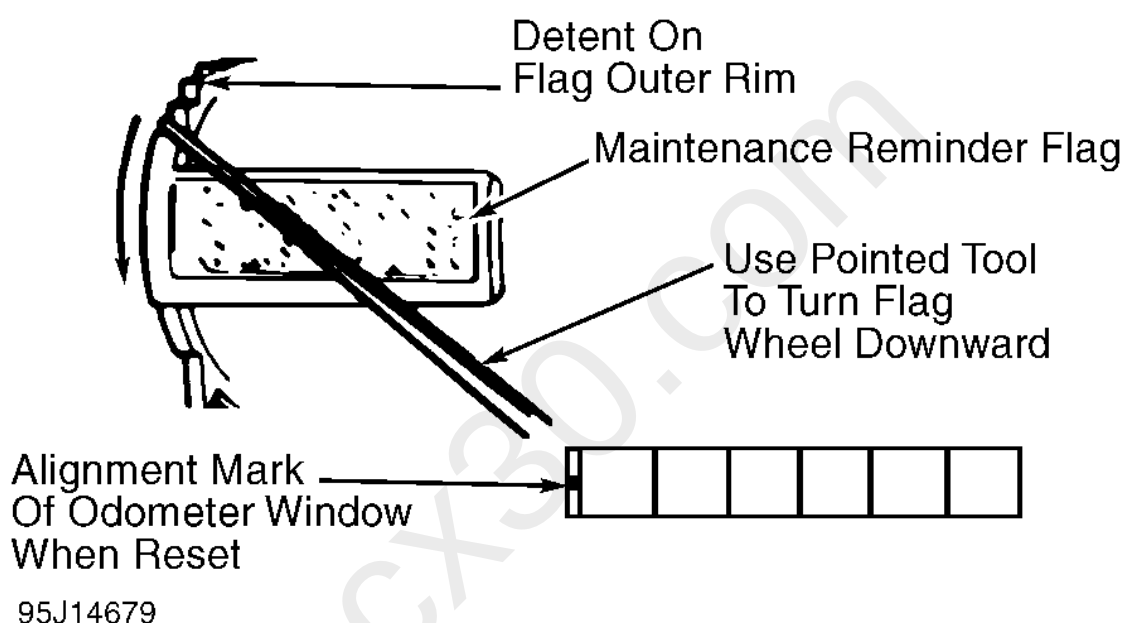

Fig. 3: Resetting Reminder Flag
1. Every 30, 000 miles, a reminder flag appears in speedometer face, indicating service of oxygen sensor is necessary. See Fig. 3. Inspect and service oxygen sensor as necessary and reset flag.